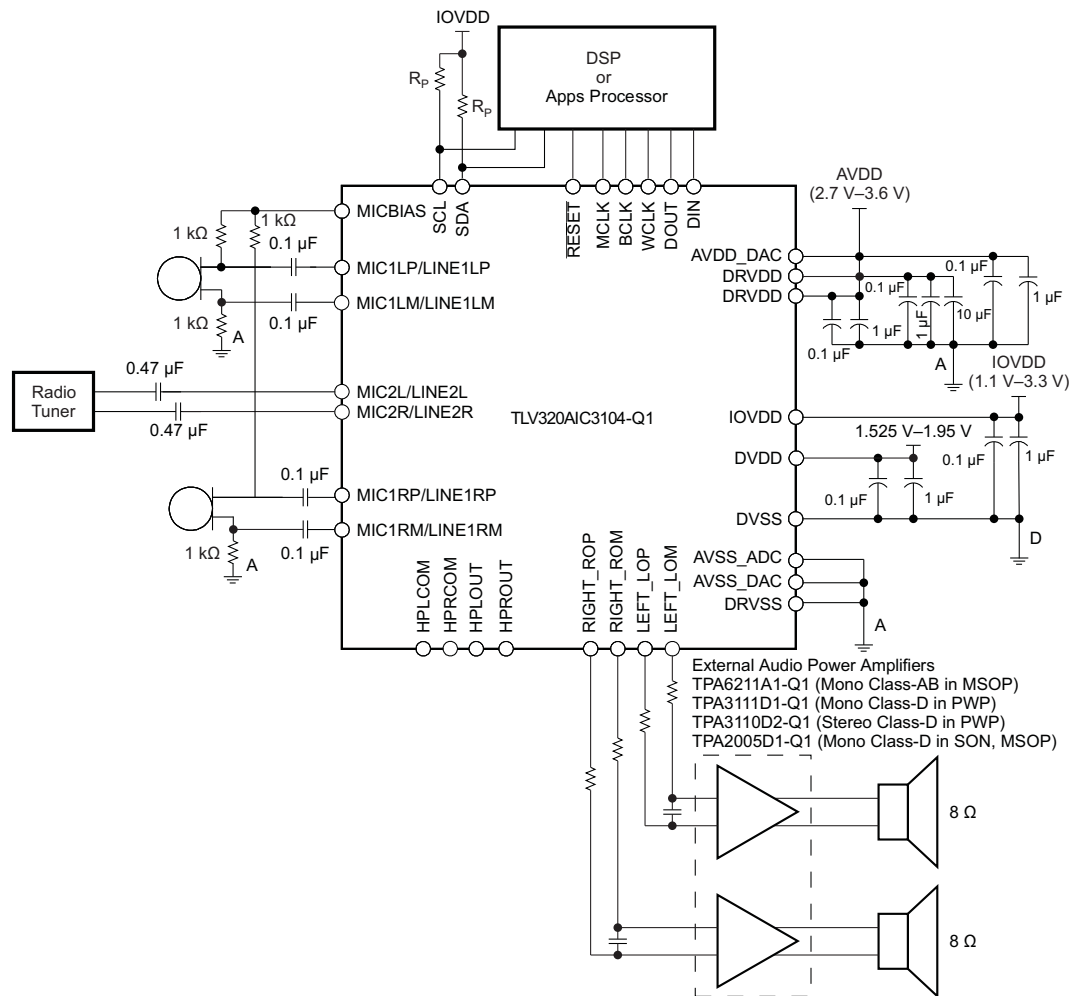

Figure 32. Typical Connections With Differential Inputs for External Speaker Driver
- Use Figure 32 as a guide to integrate the hardware into the system.